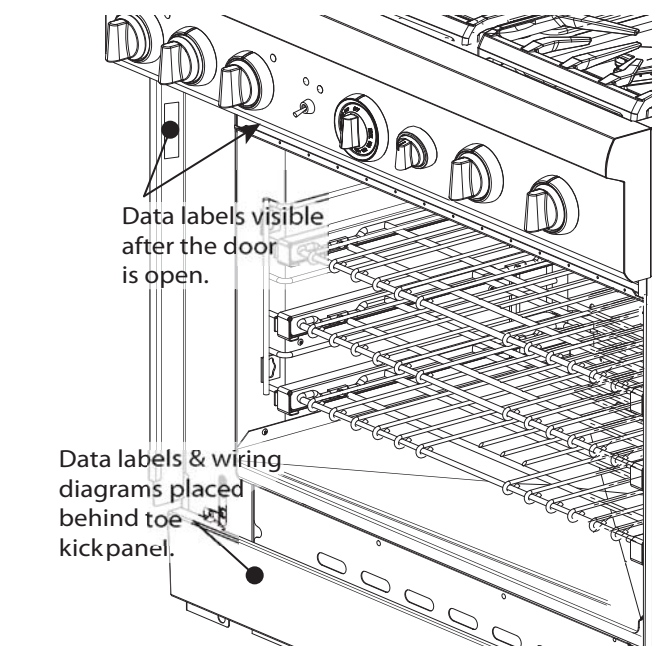

Figure 28: Data Rating Label Location
- ☐ To reach a service representative, see the contact information on the back page of this manual. Please be prepared with the model and serial number information from the product data rating labels (see *Figure 28 on page 24* for location).